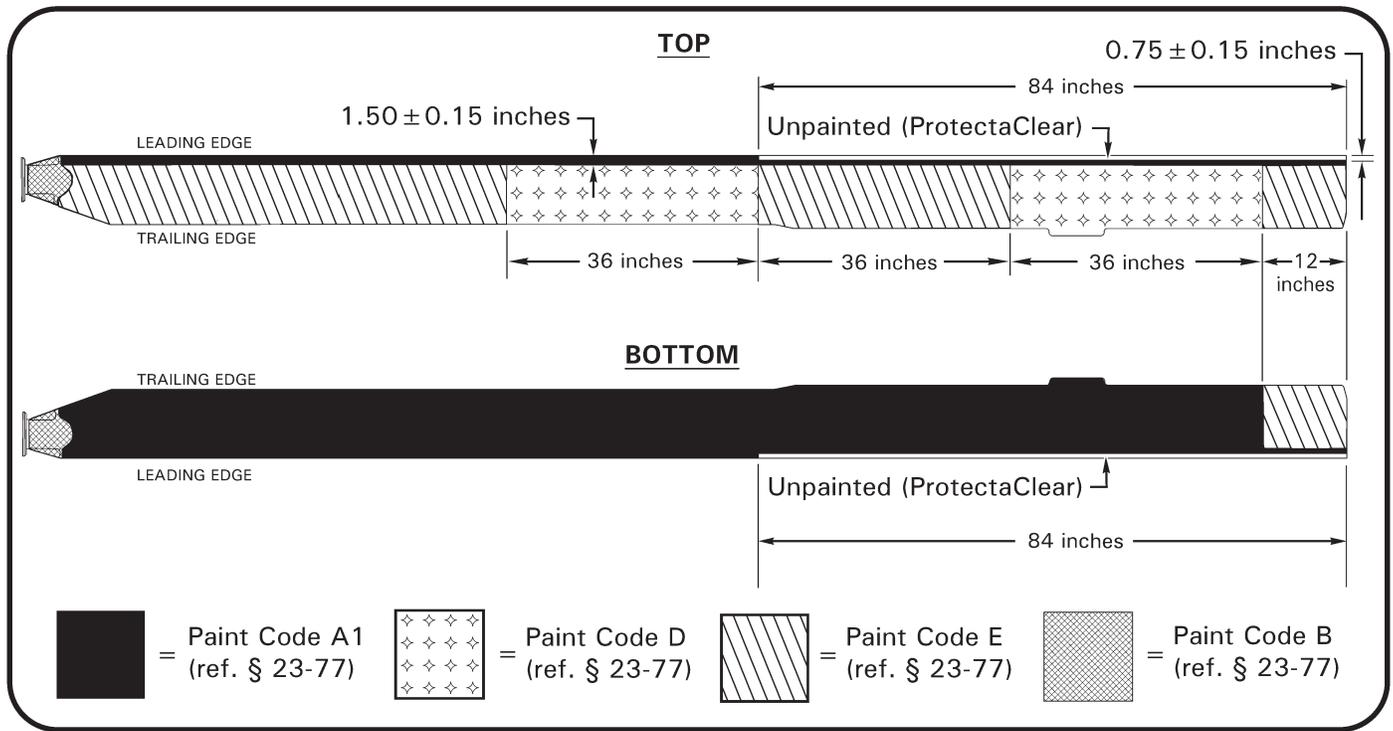

FIGURE 28-19 C016-7 MAIN ROTOR BLADE PAINT SCHEME
4. Refer to Figure 28-19. Mask blade(s) as required, and protect helicopter to prevent overspray contamination.
6. Refer to Figure 28-19. Apply dark gray, flat black, white, and/or yellow polyurethane enamel, as required, to primed area in accordance with paint manufacturer’s recommendations.
Refer to Figure 28-19. Repaint leading edge per § 28-52 as required. Outboard leading edge may be refinished per Part C.
5. Refer to Figure 28-19. Using 3M vinyl tape (or equivalent), apply masking to blade(s) along 0.75-inch dimension and aft of feathered paint. Protect blade(s) and helicopter from overspray contamination.